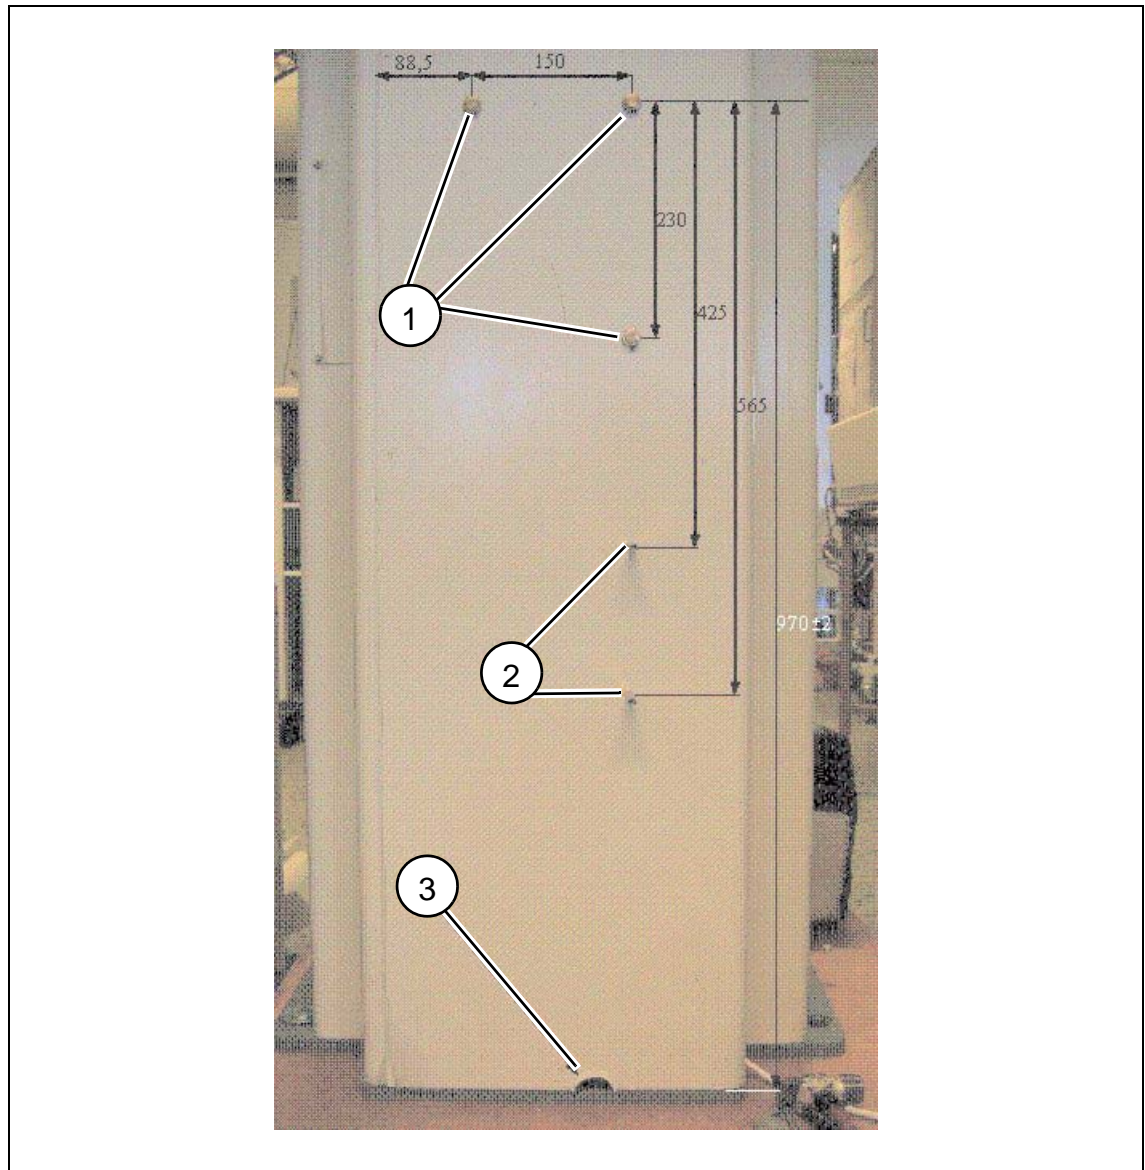

Fig. 1
- Drill three holes 5.5 mm (1/Fig. 1) for the BC unit and two holes 4.5 mm (2/Fig. 1) for the Cable Duct in the Back Cover of Novation stand according to Fig. 1.
- Mount the plastic profile (Pos 40) with glue (Pos 45) on the edge of the cable inlet slot on the bottom edge of the Back Cover according to (3/Fig. 1).